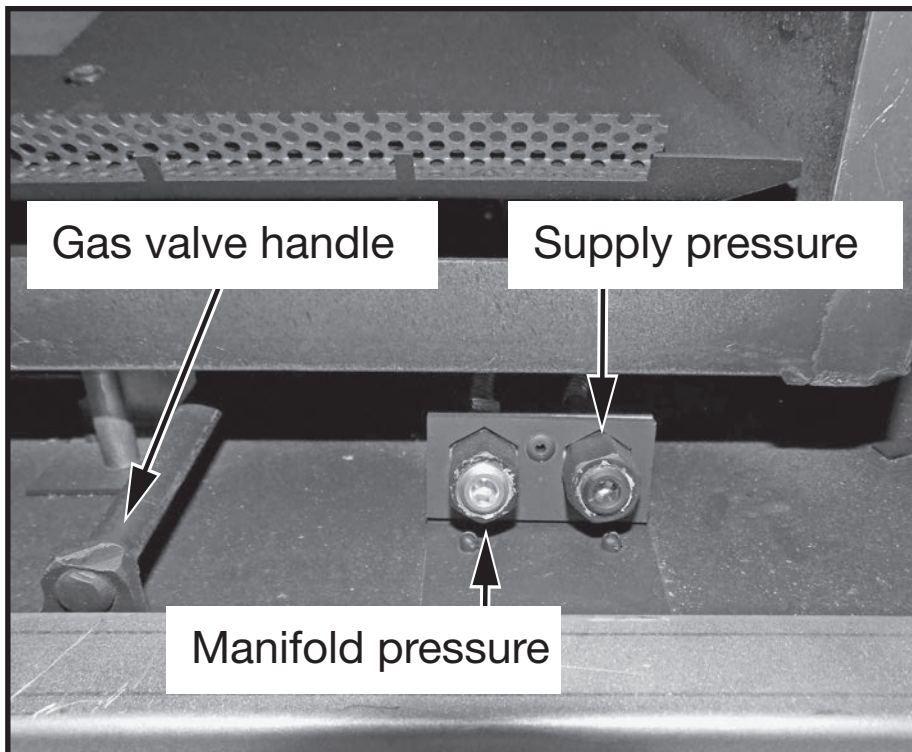

Figure 45: Gas pressure testing ports.
2. Turn gas off using gas valve handle as shown in Figure 45.
3. Locate the inlet and outlet test ports which are located on the right hand side of the fireplace (Figure 45). After locating test ports, loosen the screws within the ports using a 3/8" Allen key.